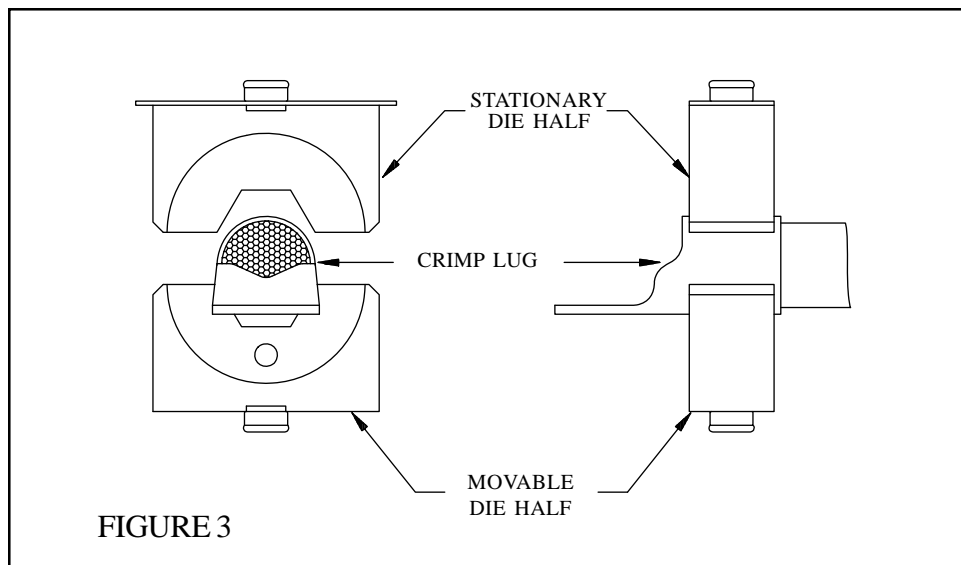

FIGURE 3
- Place a lug in the movable die making sure the lug is positioned as shown in Figure 3. Rotate the advance handle clockwise until the die loosely clamps the lug (see Figure 1).